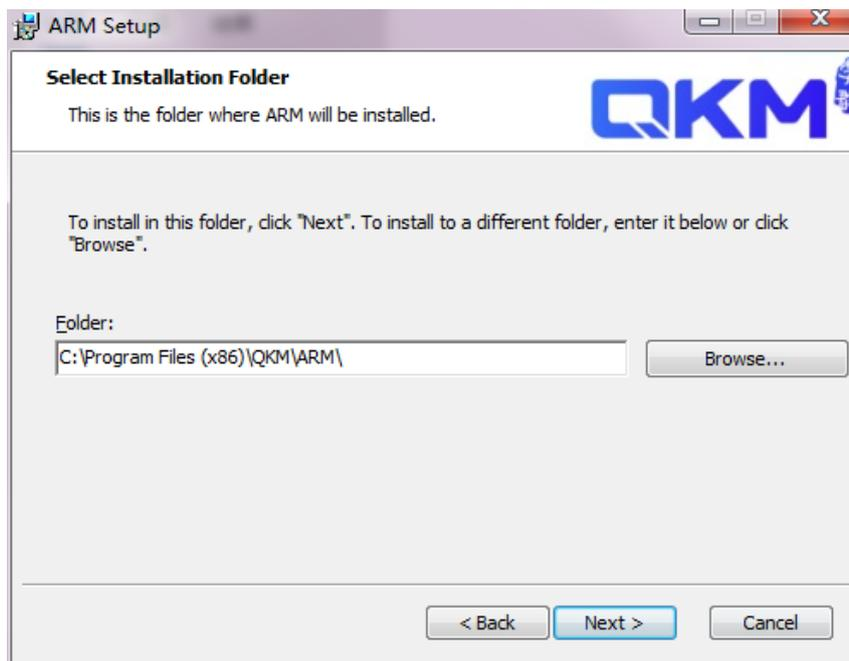

Figure 6-3 Choose installation path
Step 3 Click on "Next", as shown in Figure 6-3.